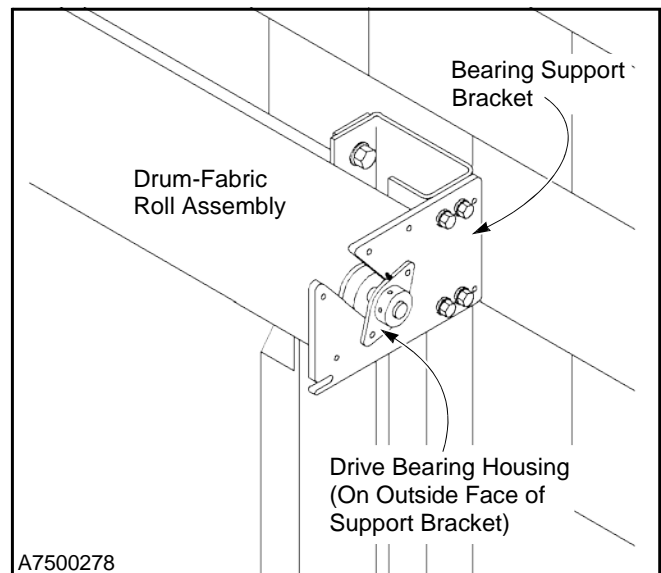

Figure 22
4. Lift the drum-fabric roll assembly over both side columns and then lower it in place. As the assembly is lowered, the drive bearing housing located on the bearing end of the roll assembly must be on the outside face of the bearing support bracket. (See Figure 22.)